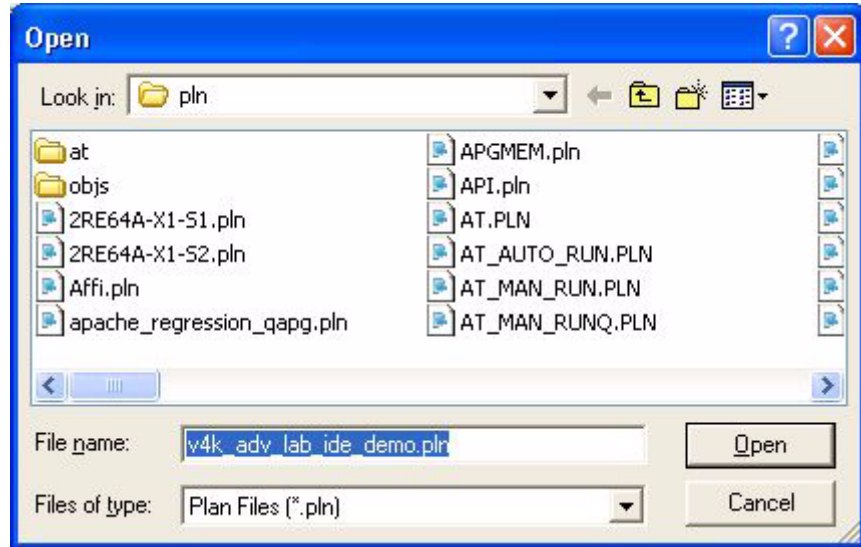

Figure 7-33. Select Test Plan Dialog Box
- 3 Selecting the **Test Plan** button displays the Open dialog box (Figure 7-33) that lists the available plan files. Test plan files define the tester setup that is used. The `v4k_adv_lab_ide_demo.pln` plan file will be used for this example.